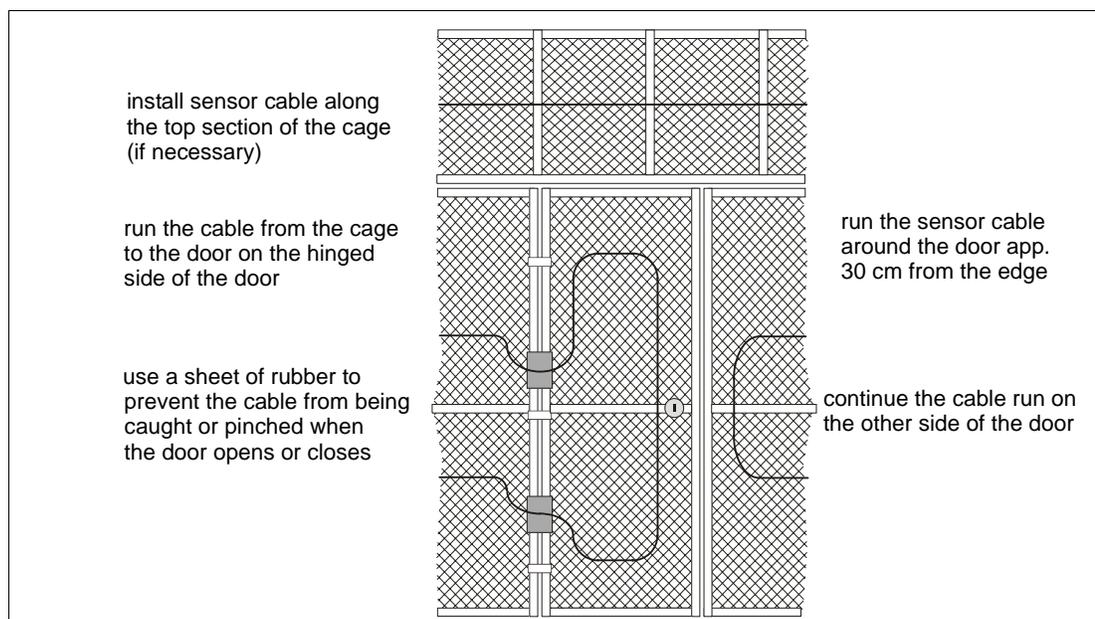

Figure 16: Installing sensor cable on cage doors and gates
- To install sensor cable on security cage doors or gates, run the cable from the cage to the door at the hinged side of the door. Ensure that there is enough slack in the cable to allow the door to fully open and close. Ensure that the cable cannot be caught and pinched when the door closes. Run the cable once completely around the door between 15 and 30 cm from the edge of the door. Run the cable from the door back to the cage at the hinged side of the door. Continue installing the cable on the security cage. Figure 16: illustrates sensor cable installation on a security cage door.